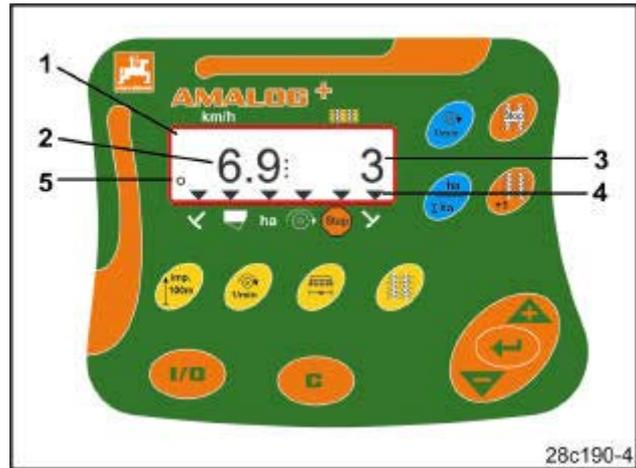

Fig. 2
The **AMALOG+**-terminal with its 6 digit display (Fig. 2/1) shows in the operational position
- the forward speed [km/h] (Fig. 2/2)
- the position of the tramline counter (Fig. 2/3)
- the function control signs (triangle for symbol, Fig. 2/4).
AMALOG+ operates correctly which is indicated by the flicking circle symbol (Fig. 2/5) on the display, when **AMALOG+** receives impulses from the gearbox sensor during the operation.
On seed drills without track markers and without track marker sensor the figures 2 to 99 represent the period (sec.) between stop (standstill of the gearbox) an counting going on of the tramline counter.